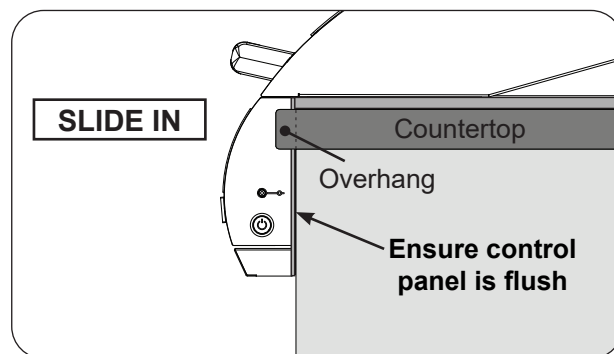

Fig. 27-3 Slide in unit (ensure flush)
- Ensure the unit fully slides in so that the control panel sits flush against the enclosure front wall. See the COUNTERTOP OVERHANG section in ENCLOSURE REQUIREMENTS for details. See Fig. 27-3.